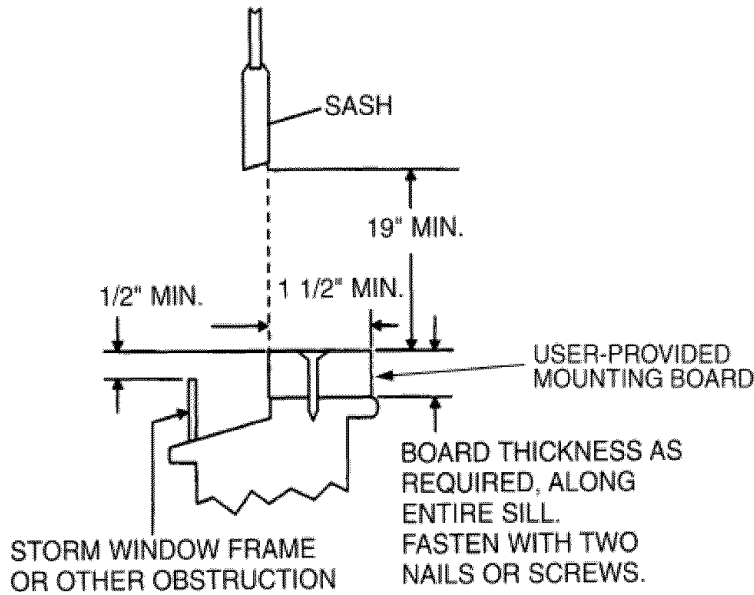

Fig. 21 – Storm Window Applications
The frame of the storm window (or any other obstruction) must be at least 1/2", lower than the window sill. If the storm window frame is not at least 1/2" below the window sill, then a mounting board will need to be added to raise the height of the window sill (see Fig. 21). The board will need to be provided and cut by the installer.
1. The wood mounting board should be a minimum of 1-1/2" wide and should run the length of the window. The thickness of the mounting board is dependent on the height of the storm window frame. The mounting board should raise the front of the air conditioner high enough so that the unit will be pitched downward at least 5/8" when the back of the unit is resting on the storm window frame. See Fig. 21.